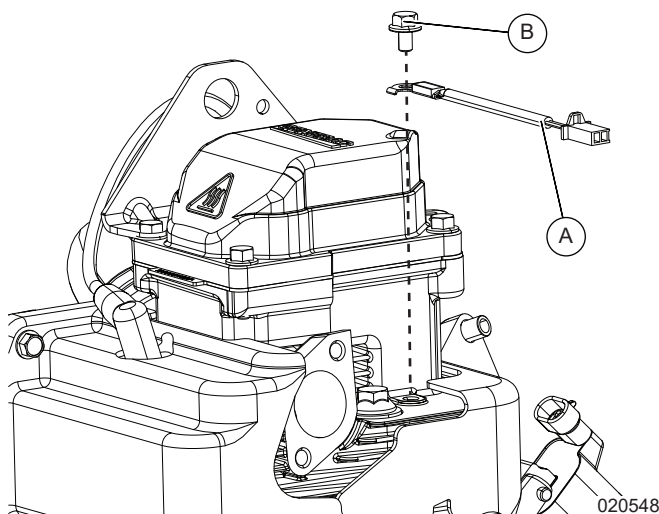

Figure 12-23. Install Head Temperature Sensor
1. See Figure 12-23. Install head temperature sensor (A) with fastener (B).